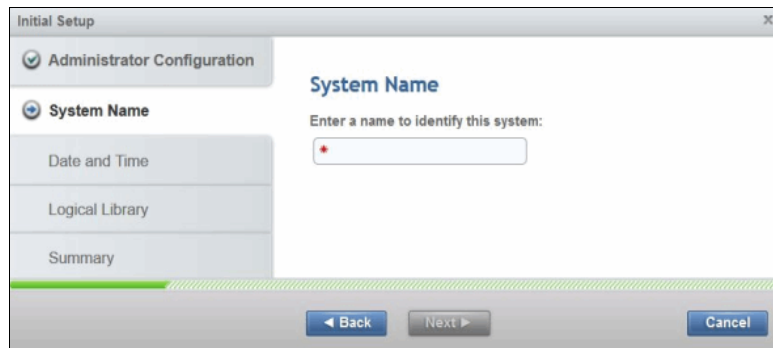

Figure 4-6 Setting the system name
1. In the window, as shown in Figure 4-6, you can enter the name of your library.